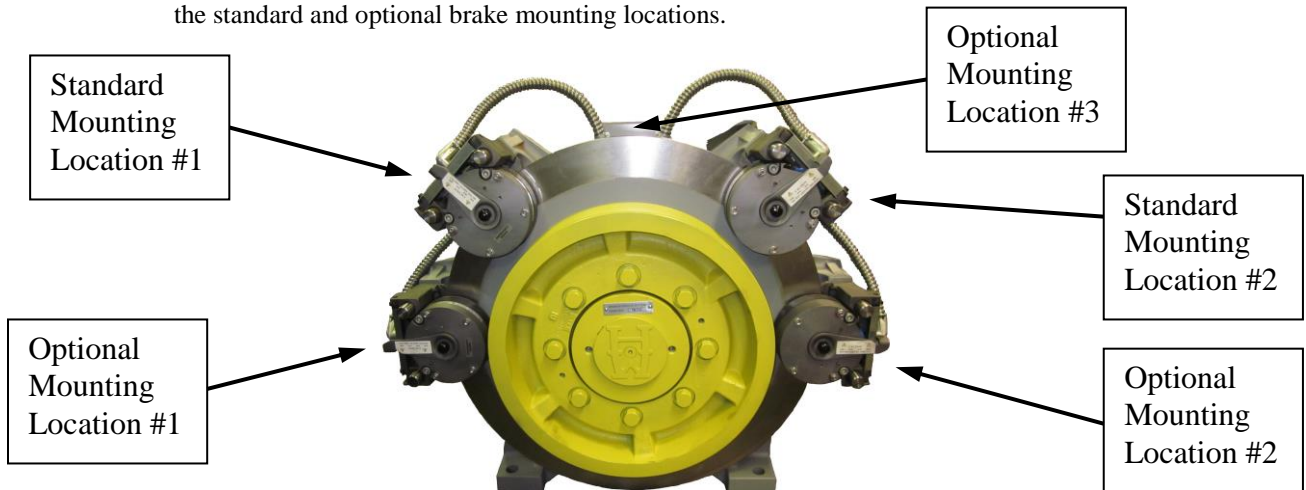

Figure 1
- The machine brakes may be mounted in 5 locations around the body of the machine to provide flexibility in machine placement and proximity to other equipment or walls. Refer to Figure 1 for the standard and optional brake mounting locations.
- If brakes need to be mounted, using either of the optional mounting locations shown in Figure 1, they should be requested at the time of ordering. Brakes may be relocated in the field when necessary. Contact Hollister-Whitney for instructions.
Note: Relocation of the electrical box is an available option. See Figures 23 & 24 for examples of some factory installed options, and consult H-W Engineering for available options. Field relocation is also possible at the various open brake locations (Figure 1) with a Field Relocation Kit. Consult H-W Engineering for information.